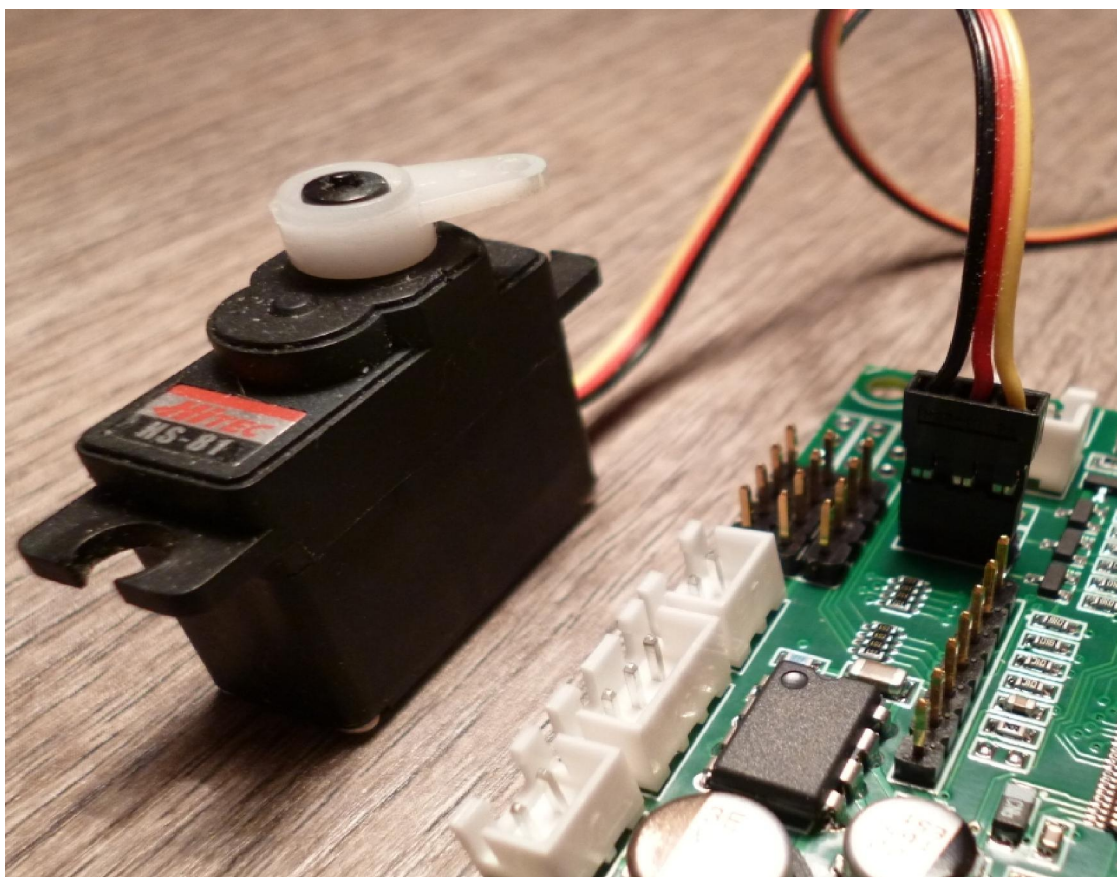

Fig. 4a – Recoil servo plug connected
- Fig. 4a Recoil servo plug connection